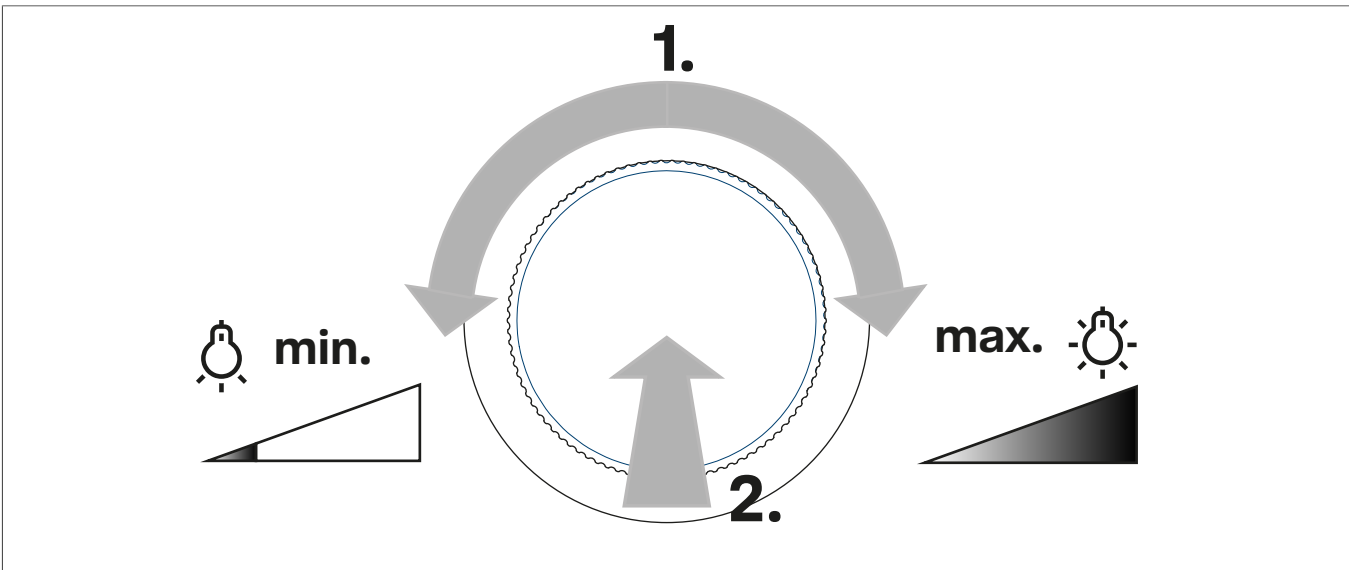

Fig. 2: Turn on with minimum or maximum brightness
- Turn the setting knob a quarter of a turn, then short press the setting knob. The light switches on at minimum brightness or maximum brightness (figure 2).